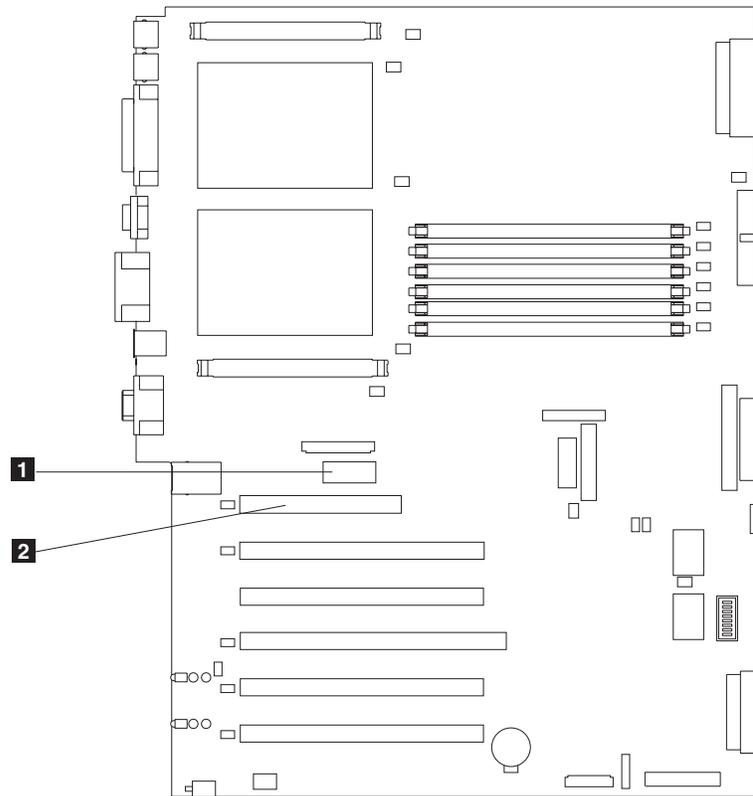

Figure 62. Remote Supervisor Adapter connectors on the system board
- b. Connect the other end of the cable to the system-management connector (J27) on the system board. Item **1** in Figure 62 on page 127 shows the location of the system-management connector on the system board.